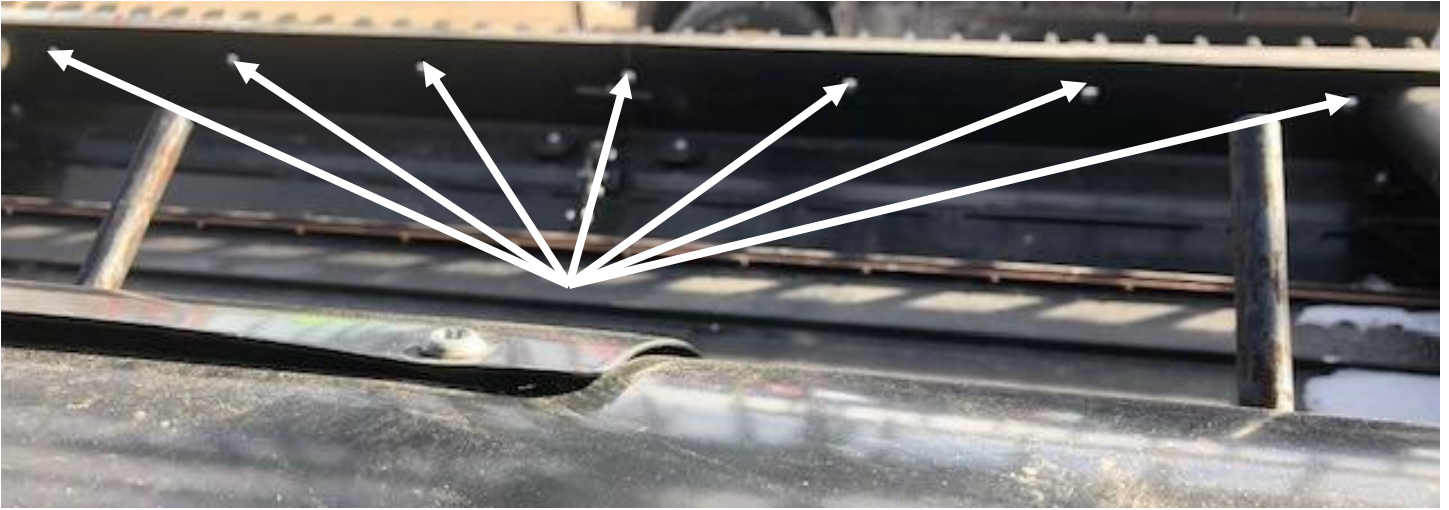
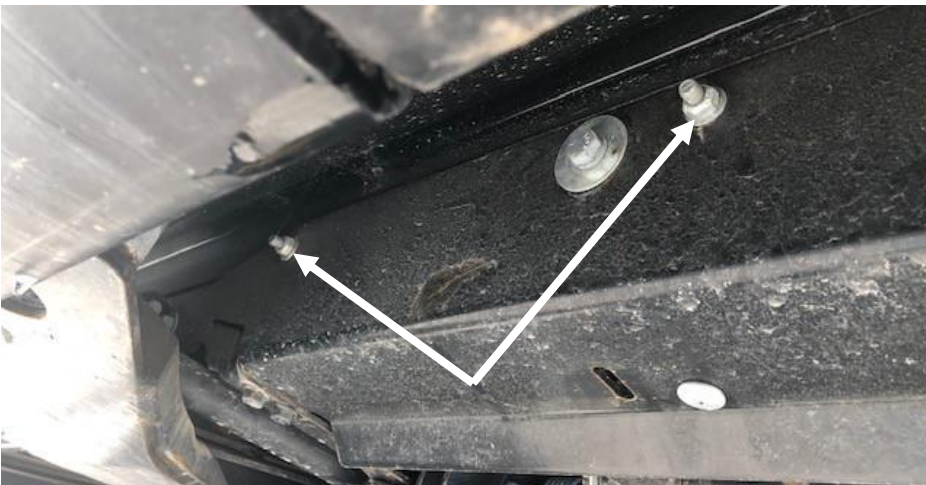

Figure 2
Figure 3
- Loosen the front mounting bolts on the feeder deck frame. Figure 2 **DO NOT REMOVE THE BOLTS**. The nuts can be accessed under the header behind the cutter bar. Figure 3